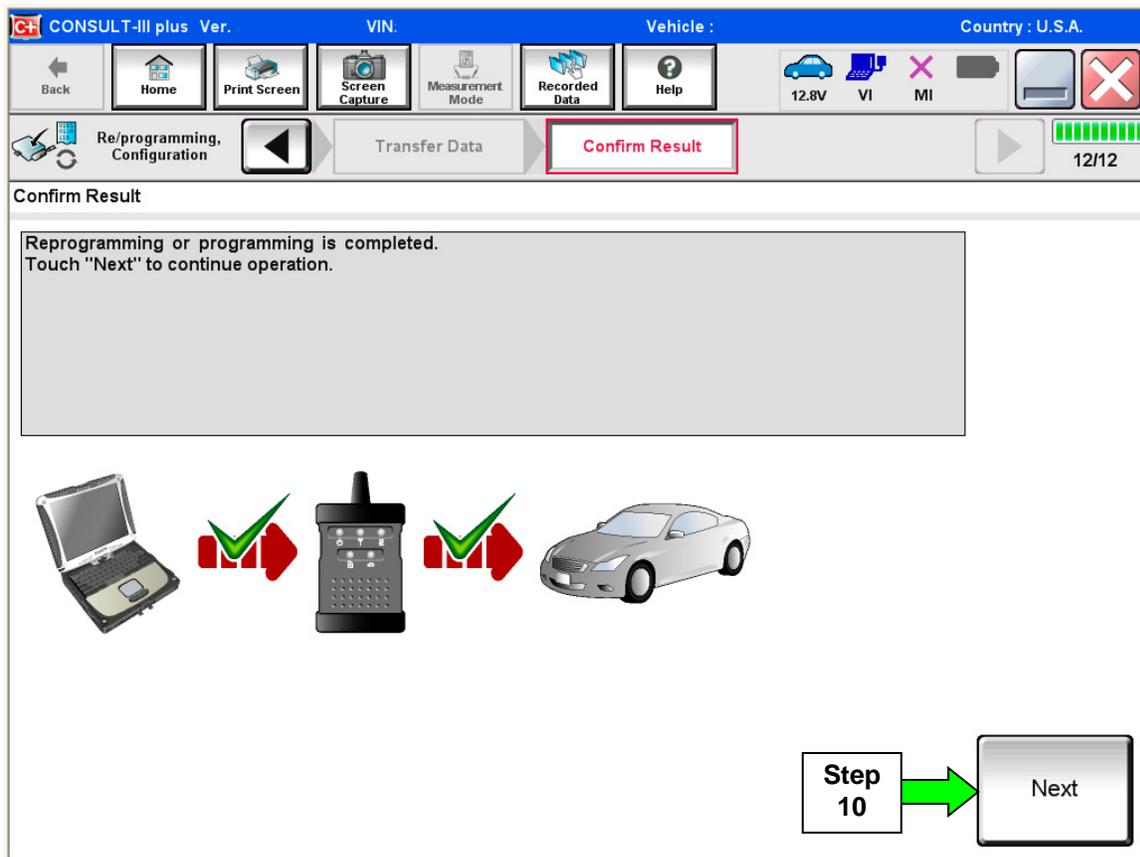

Figure 4
8. When the screen in Figure 4 displays, reprogramming is complete.
NOTE: If the screen in Figure 4 does not display (indicating that reprogramming did not complete), refer to the information on page 13.